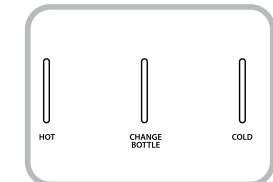

Fig.3
6. Turn ON the hot water switch, wait a couple minutes and turn ON the cold water switch. Allow the unit to reach the minimum cold and hot water temperatures. This will take approximately 45 to 65 minutes and the Indicator Light will turn OFF. (Fig.3)